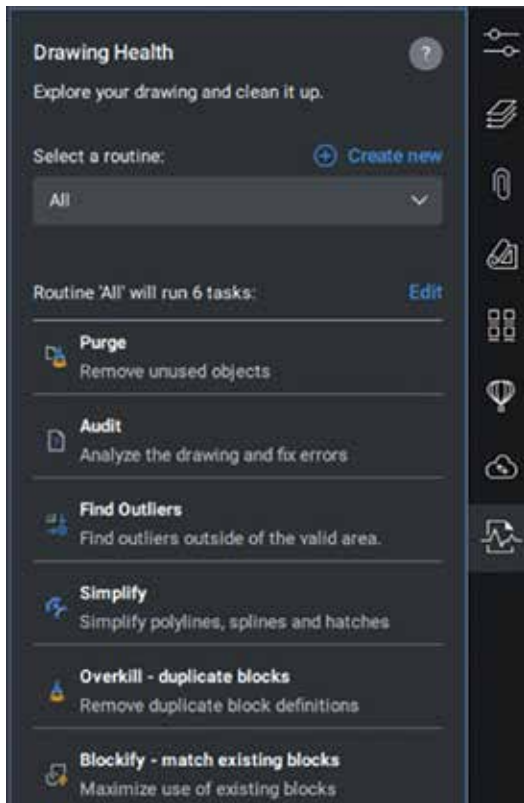

Figure 7
- DWGHealth significantly reduced DWG file size for thousands of dwg's, optimized speed to open and in-drawing working efficiency, reduction in server storage space. (See Fig. 7)